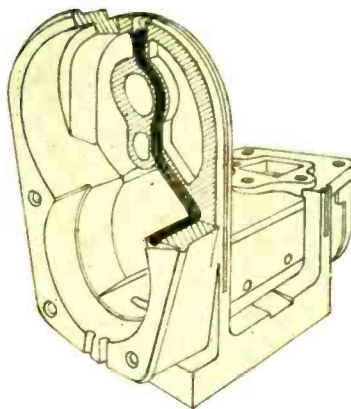

Fig. 7. Copper oil tube, for internal lubrication, cast in place.
(5) To provide means of lubrication to inaccessible points in the casting from points readily accessible when assembled. Fig. 7 illustrates this application of inserts.